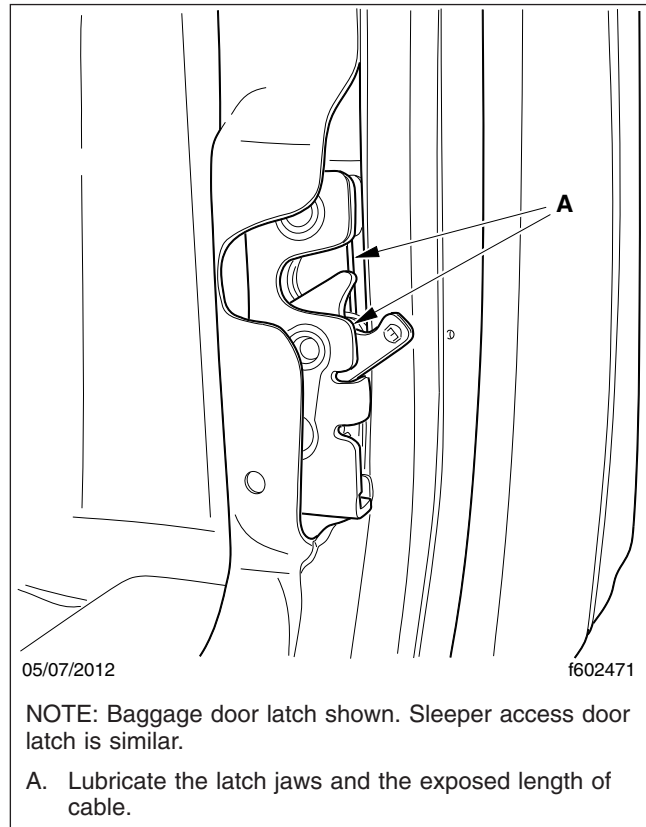

Fig. 3, Baggage Door Latch
3. At the opened baggage door, apply a light coating of lubricant to the latch jaw and the exposed length of cable. See Fig. 3. Repeat for the